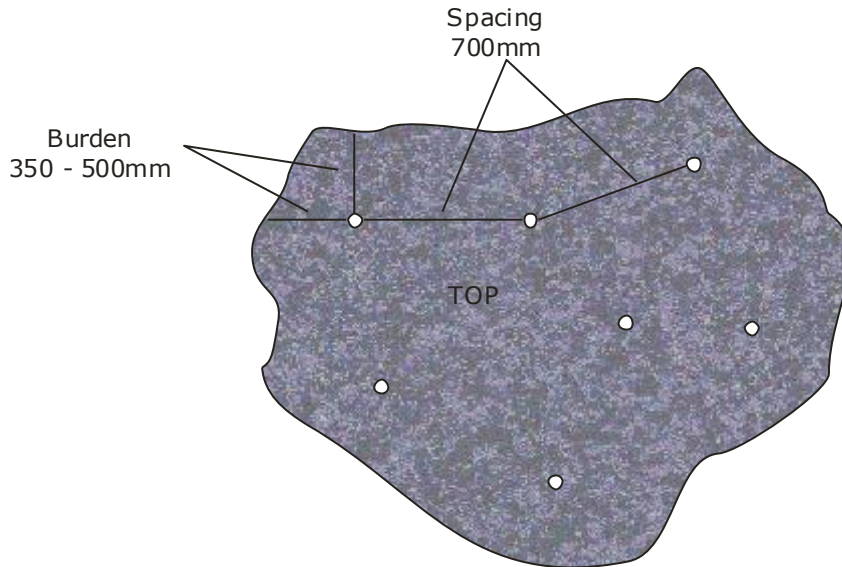

Fig. 8 Spacing
- For a small fragmentation keep the burden (distance from the side of the rock) between 350 and 500 mm and the spacing (between holes) 700 mm (figure 8). This is a general pattern and must be adapted to suit the situation.